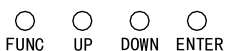

Fig.5
- Press the button **FUNC** so many times until the display shows [**SOL**] (fig.5).
- For music control adjust the control **SENSITIVITY (17)** for the microphone sensitivity so that the dynamic power of the music will be reproduced in an optimum way by the movements of the laser. When changing the pattern or the movement by a music signal, the microphone sensitivity must be adapted accordingly via the rotary control.